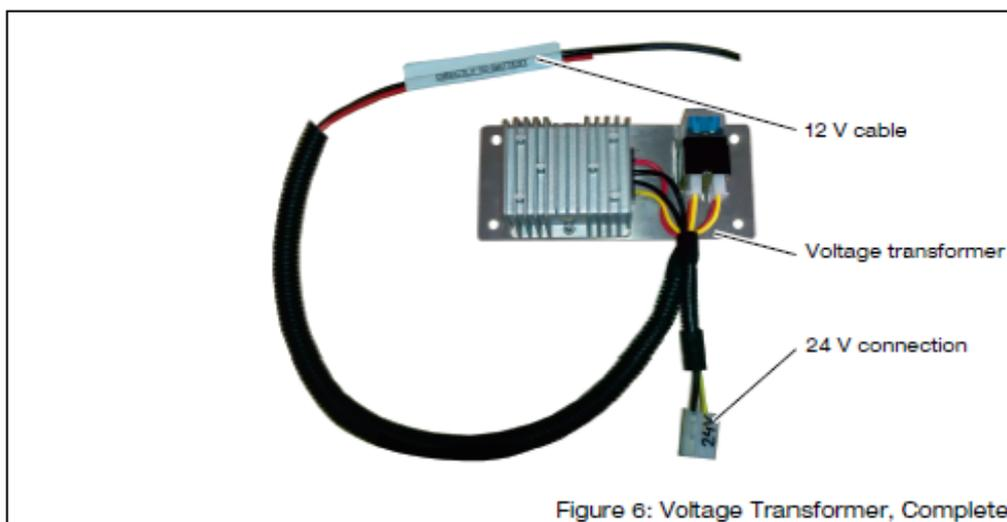

Figure 6: Voltage Transformer, Complete
- Install the voltage transformer (see Figure 6).